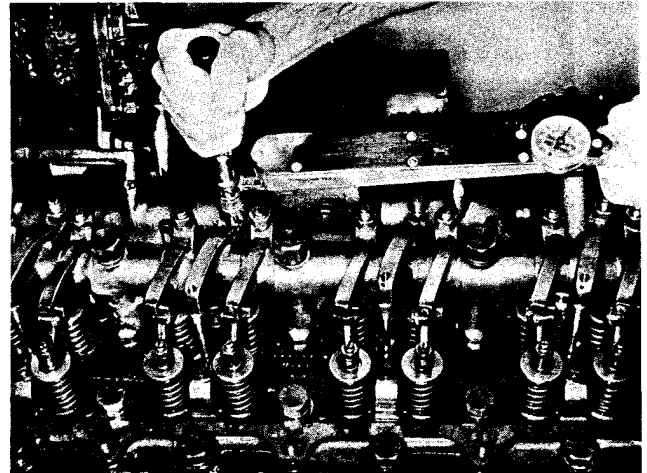

Fig. 2-39, (V51489). Torquing injector adjusting screw locknut
3. Hold injector adjusting screw and tighten injector locknut to values indicated in Table 2-7. When ST-669 Adapter is used, nut torque is reduced to compensate for additional torque arm length, Fig. 2-39.